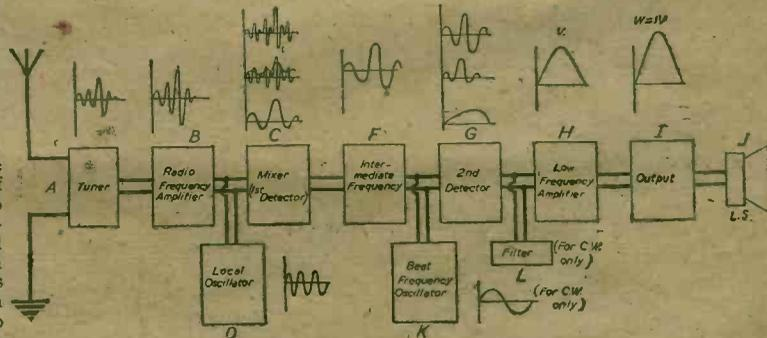

Fig. 37.—The super-heterodyne circuit stage by stage.
Fig. 37 is a block diagram with waveforms for a superheterodyne receiver. The aerial voltages (A), are fed via an R.F. amplifier (B), to a "frequency-changer" (C) (also known as a "mixer" or first detector).